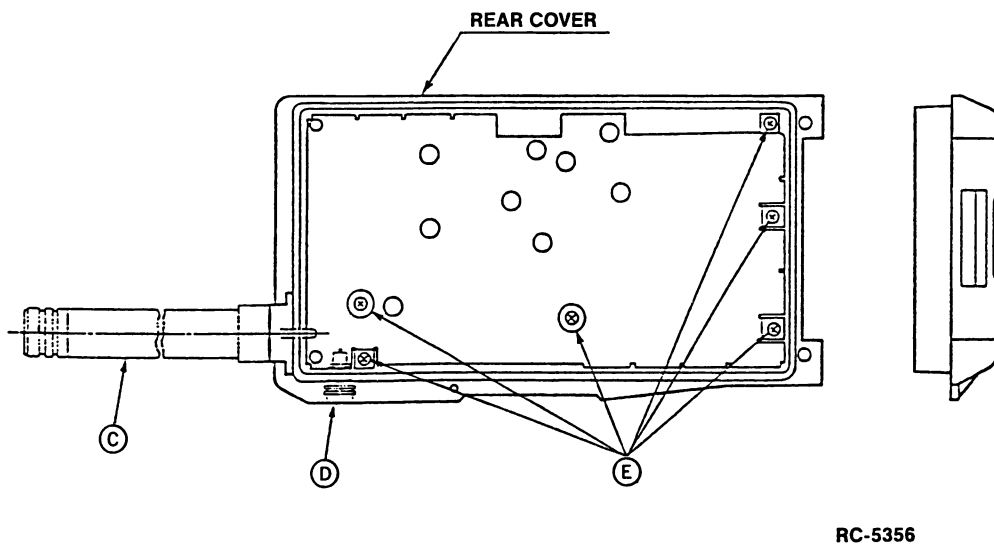

Figure 13 - Disassembly Step 2
To remove the Radio Board, unscrew and remove the antenna at (C) and UDC RF connector at (D). Remove the six screws at (E) using the Phillips-head screwdriver. The radio portion can now be detached from the rear cover. (See Figure 13)